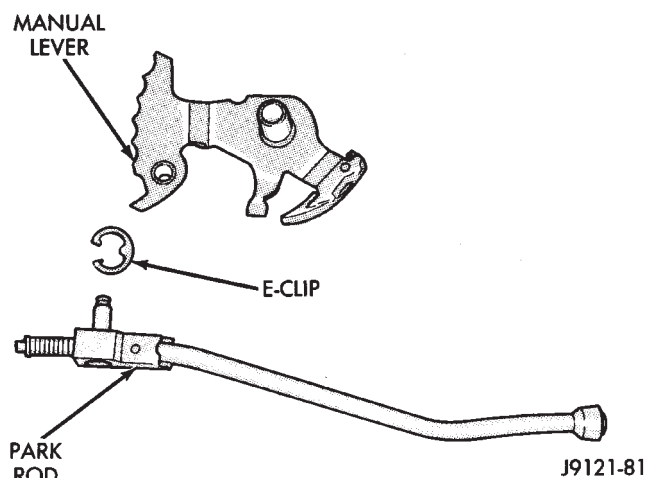

Fig. 105 Park Rod Removal
(8) Remove park rod E-clip and separate rod from manual lever (Fig. 105).